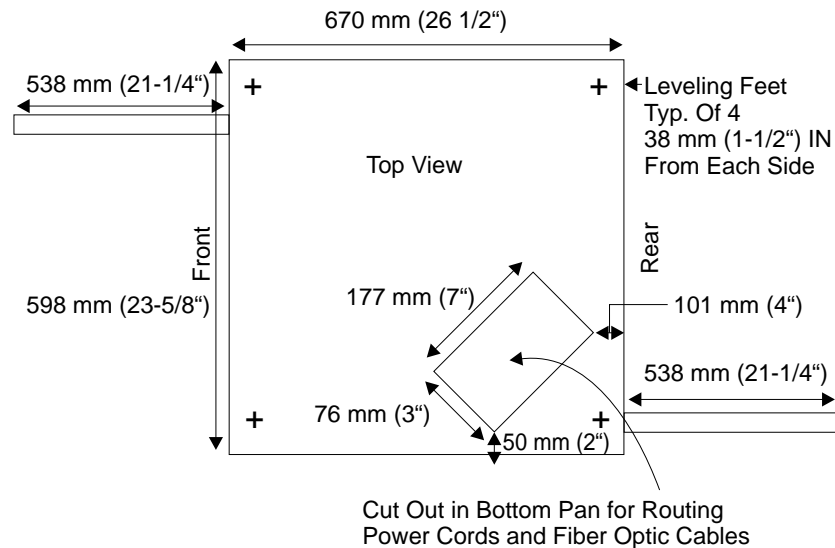

Figure 2. Physical Planning
- 1 Position the unit in place and lower the four leveling feet. See Figure 2 for space requirements and cable entry.